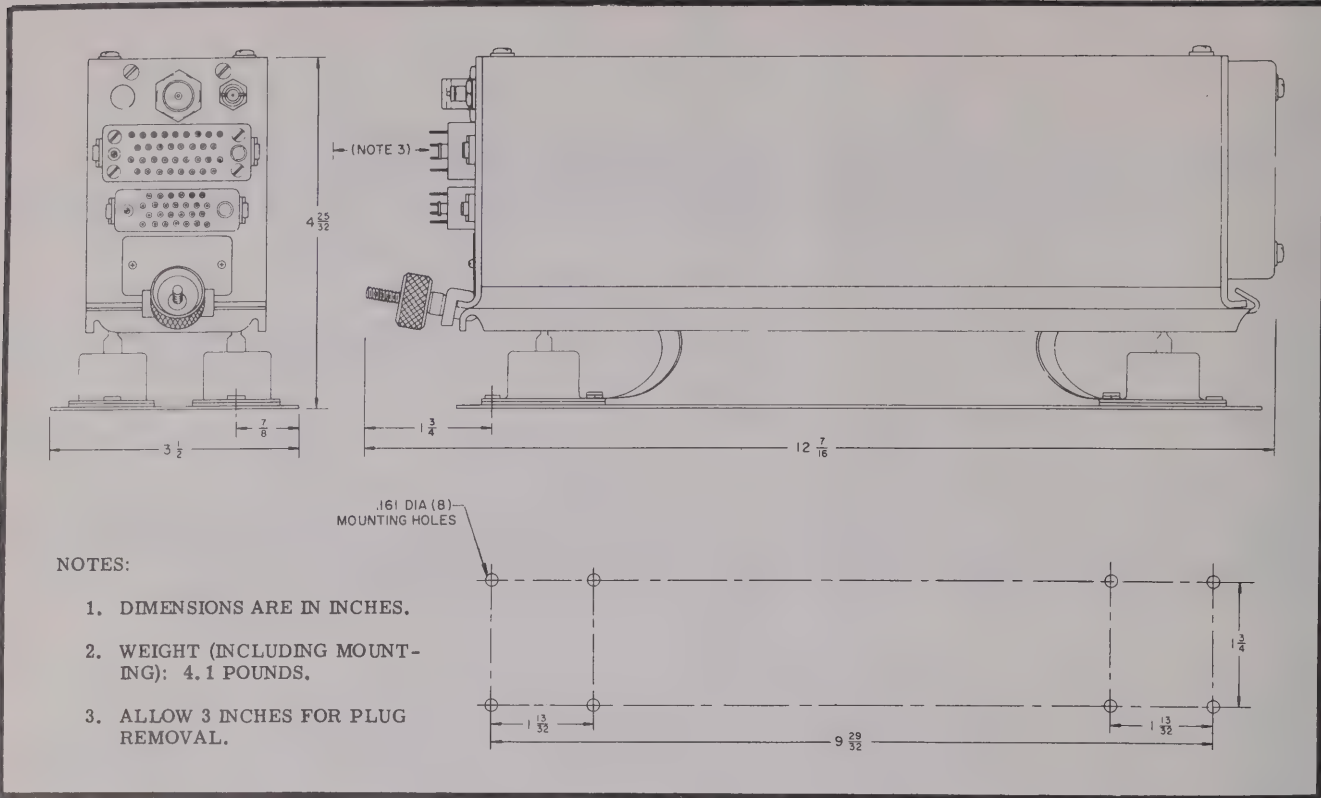

Figure 2-1. 37260 Receiver-Transmitter with Mounting 36280, Installation Dimensions
- a. Check that the proposed installation areas can accommodate the units. Refer to the installation dimensions in figures 2-1 through 2-5 and figures 2-7 and 2-8.
Installation dimensions for the receiver-transmitter installed on its mounting are shown in figures 2-1 or 2-2. To install the receiver-transmitter and mounting, refer to figure 2-1 or 2-2, as applicable, and proceed as follows: